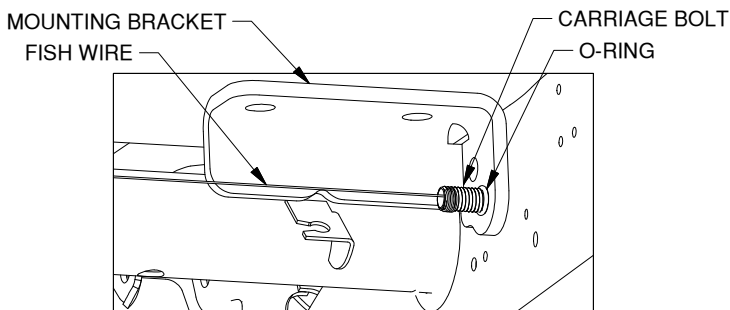

Figure B3: Looking at mounting bracket installation.
- 4. Pull fish wire through frame.** With the fish wire through the locking strap, push the locking strap completely into the frame. Next, pull the carriage bolt into the frame. Continue pulling on the fish wire until the threaded portion of the bolt is sticking out of the frame. Turn carriage bolt until square shoulder engages square hole of strap. Thread the mounting bracket and an O-ring over the fish wire and onto the bolt. Push the O-ring tight against the bracket, see Figure B3. This will prevent the bolt from accidentally falling back into the frame. The O-ring will stay on the bolt after the washer and nut are installed and tightened.